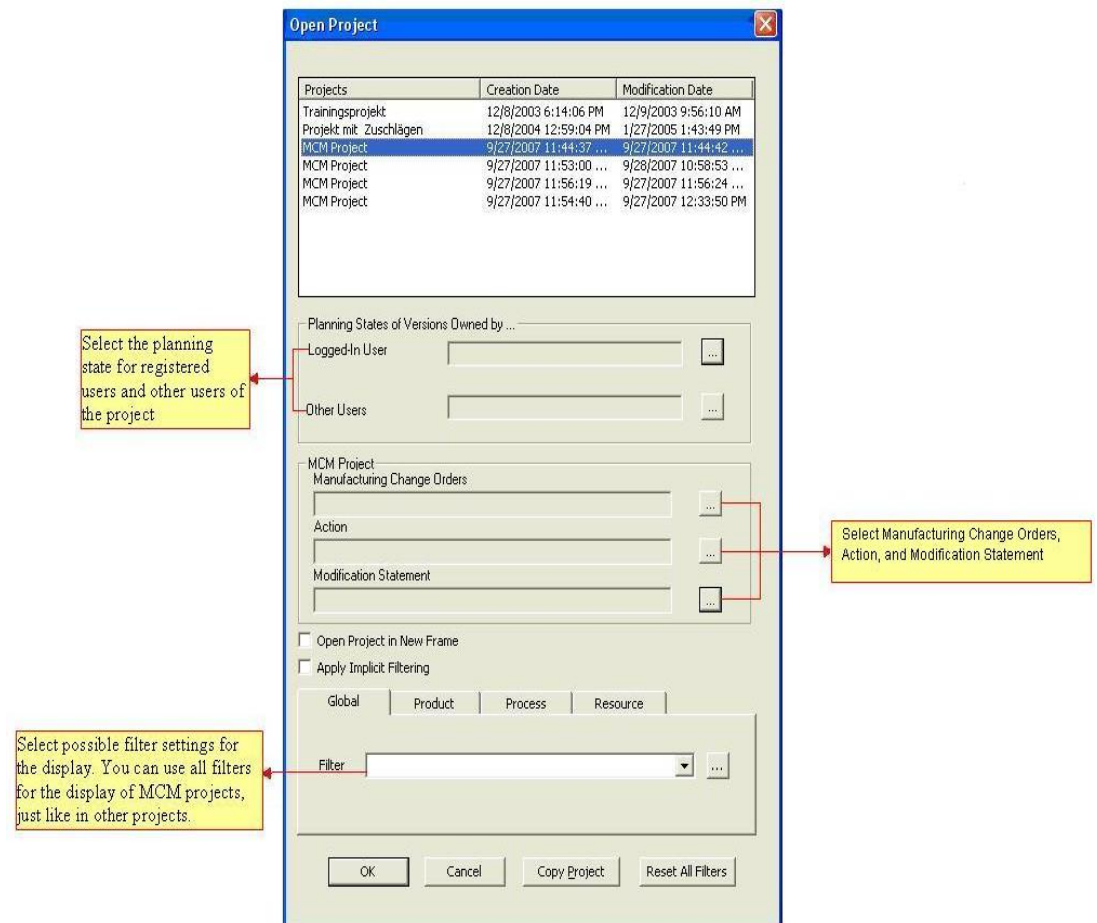

Figure 12: Open MCM-Project
- 6) Click Push button with the three dots , Please refer to the Figure 12, and select **Manufacturing Change Orders, Action, or Modification Statements**..